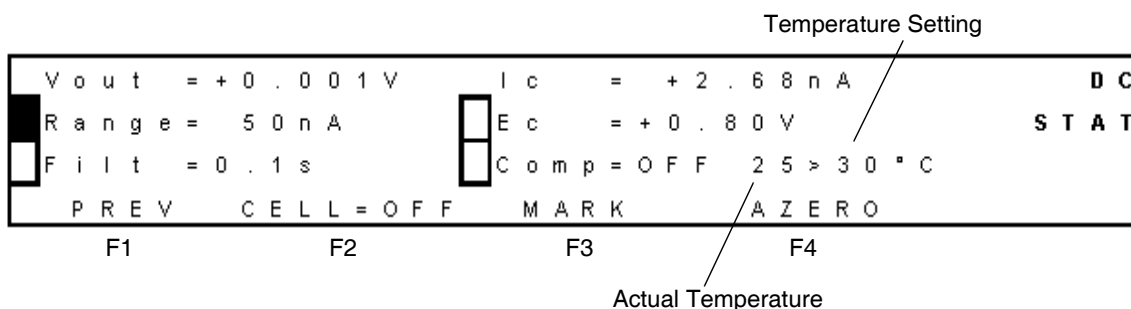

Figure 3-17 DC Stat Screen
3. Select **F5 NEXT**. The DC Stat screen appears (Figure 3-17).